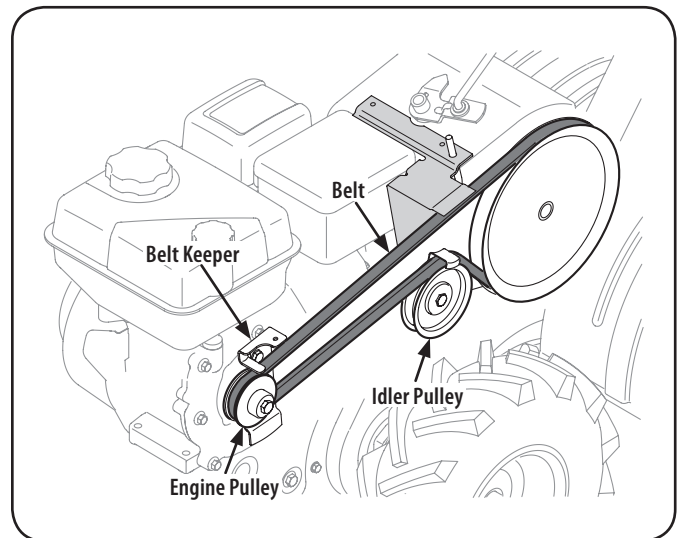

Figure 28
3. Remove the belt keeper assembly located behind the engine pulley by removing the two hex bolts and lock washers. See Figure 28.
4. Remove the idler pulley by removing the bolt and nut. See Figure 28.
5. Remove the old belt and install the new belt. Follow the instructions in reverse order to re-install the belt keeper and belt cover. See Figure 28.